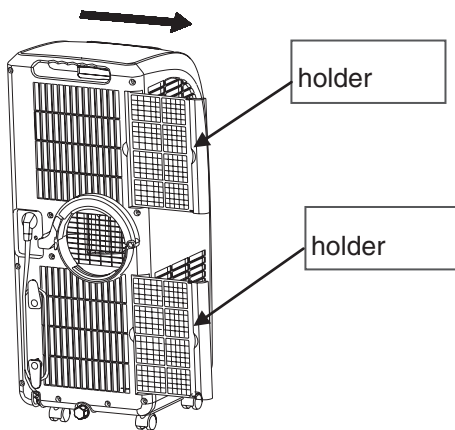

fig. 12
- 1 Hold the evaporator filter frame and condenser filter frame and lightly select the filter frame in the direction of the arrow (see figure 12).